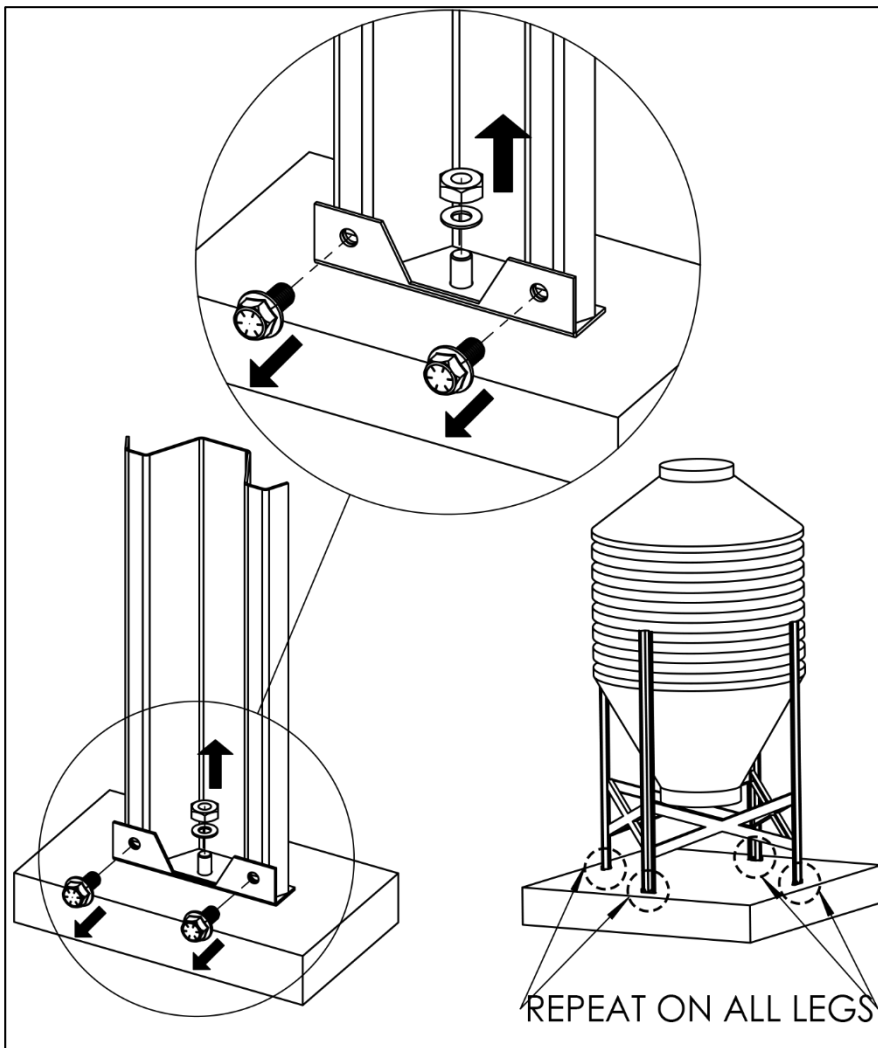

Figure 12: Removing the Side Bolts
2. Remove the side bolts (Figure 12).